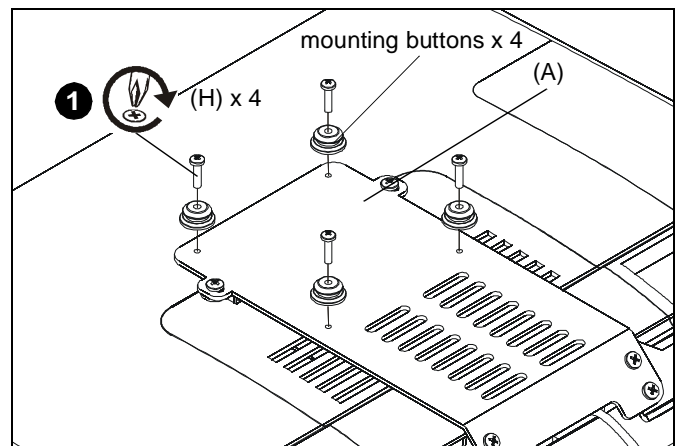

Figure 6
1. Attach the mounting buttons provided with the mount to the connector plate (A) using the four M4 x16mm Phillips pan head screws (H). (See Figure 6)